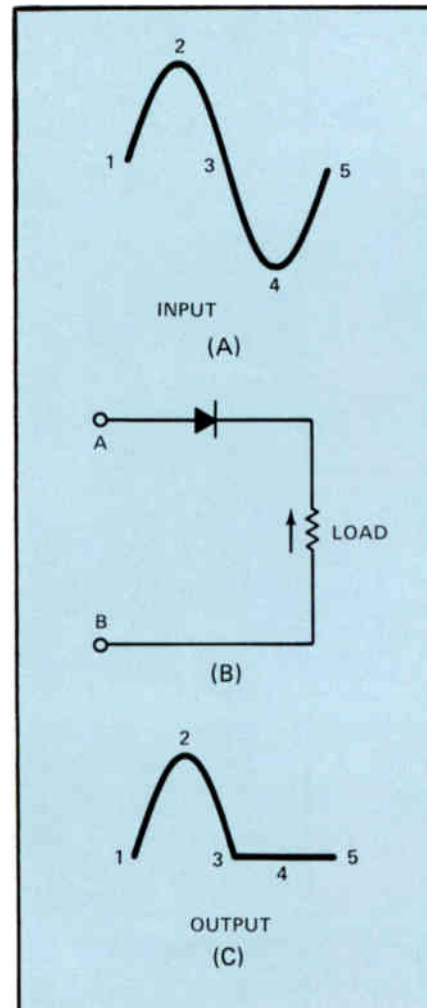
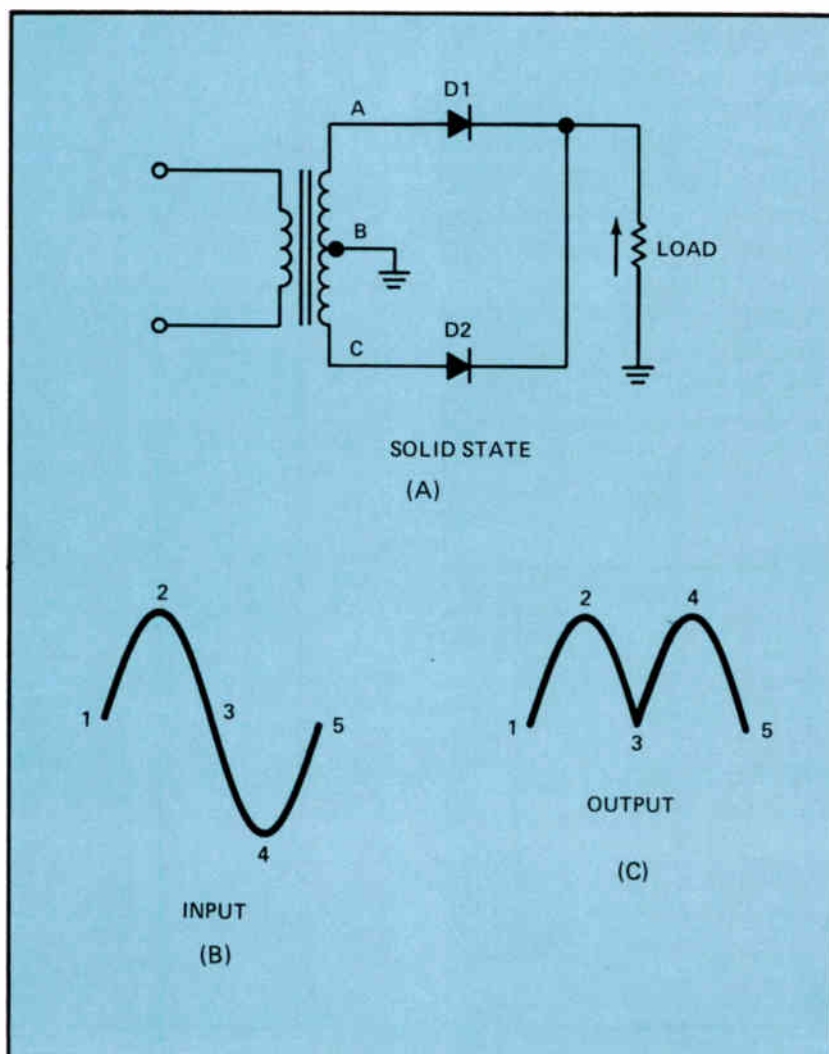
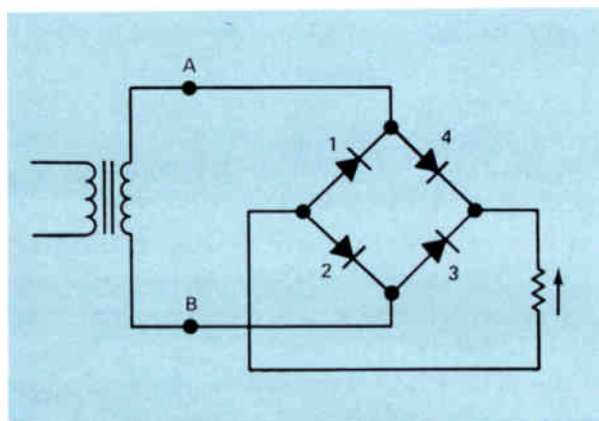

Figure 9. A half-wave rectifier.
Figure 10. A full-wave rectifier.
Figure 11. A bridge rectifier circuit.
We have shown a typical half-wave rectifier circuit in Fig.9(B). Figure 9(A) shows one ac cycle. This may be the ac that is coming from the power line or the secondary of a power transformer. Since current can pass through the rectifier in only one direction, the current will flow through the load in the direction shown producing the current waveform shown in Fig.9(C).
During the first half-cycle of the input voltage waveform, if terminal A is positive and terminal B is negative, electrons will flow from terminal B through the load, through the rectifier, and back to terminal A of the power source. As the input wave goes through the first half-cycle from point 1 to point 2 and then to point 3, current will flow through the load and rectifier as shown in Fig.9(C). The current will increase as the voltage applied between terminals A and B increases up to
point 2 and then will decrease to point 3 as the ac input decreases. During the next half-cycle, when terminal A is negative and terminal B is positive, there will be no current through the rectifier. Therefore, no current will flow through the load, as shown from point 3 to 5 in Fig.9(C).
A typical full-wave rectifier circuit is shown in Fig.10(A). Notice that the circuit uses two diodes, D1 and D2, and also that there are three connections to the secondary of the power transformer. Terminal B is a center tap connection, which means that the voltage between terminals A and B will be equal to the voltage between terminals B and C. When terminal A is positive, terminal B will be negative and terminal C will be even more negative. This means that terminal C will also be negative with respect to terminal B.
With an ac cycle like the one in Fig.10(B), we'll have a pulsating dc through the load as shown in Fig.10(C). Notice that for the first half-cycle of the input voltage, we get a current pulse through the load as shown by 1-2-3 in Fig.10(C). During the next half-cycle of the input voltage in Fig.10(B), we also get a current pulse as shown in 3-4-5 of Fig.10(C). In other words, for each half-cycle we get a current pulse through the load with the current flowing through D1 during the first half-cycle and D2 during the next half-cycle.
Compare the output for the full-wave rectifier shown in Fig.10(C) with the output of the half-wave rectifier shown in Fig.9(C). Assuming that both rectifiers are operating from a 60 Hz power line, notice that with the half-wave rectifier we get 60 pulses per second and the current is only flowing during the one-half cycle. In the full-wave rectifier circuit we get 120 pulses per second, and there is current flow during each half-cycle. You can see that it will be much easier to smooth the pulsating output from a full-wave rectifier than it is to smooth the output from the half-wave rectifier.
Another full-wave rectifier circuit is shown in Fig.11. This is called a *bridge rectifier*. Since a center-tap transformer winding is not required, it has the advantage of requiring only half as many turns on the secondary winding for a given output voltage, compared to the transformer used in Fig.10. In the full-wave rectifier shown in Fig.10, we use one half of the secondary winding during one half-cycle and the other half during the other half-cycle. Therefore, for a given output voltage, the voltage between terminals A and C of the transformer shown in Fig.10 must be twice the voltage across the secondary of the transformer shown in Fig.11. However, the circuit
shown in Fig.11 does have the disadvantage that it requires four rectifiers instead of two. But silicon rectifiers are so inexpensive that the cost of the two extra rectifiers is usually more than offset by the savings in the power transformer.
- 10 In a half-wave rectifier circuit like the one shown in Fig.9, how many current pulses per second will there be through the load when the power line frequency is 60 Hz?
- 12 What advantage does the bridge rectifier circuit in Fig.11 have over the full-wave rectifier in Fig.10?
- 13 What is the disadvantage of the bridge rectifier circuit shown in Fig.11?
The output from the rectifiers we discussed in a preceding section is not pure dc. Instead, it is pulsating dc — direct because it flows in only one direction, pulsating because it varies in amplitude rather than flowing steadily. You will remember that the half-wave rectifier shown in Fig.9 produces one pulse for each cycle. With a 60 Hz power line, there will be 60 pulses per second. Also, remember that these pulses are produced during one-half of the cycle while the output from the rectifier is zero during the other half-cycle. The full-wave rectifier produces 120 pulses per second, one pulse for each half-cycle. The output from the full-wave rectifier was shown in Fig.10(C).